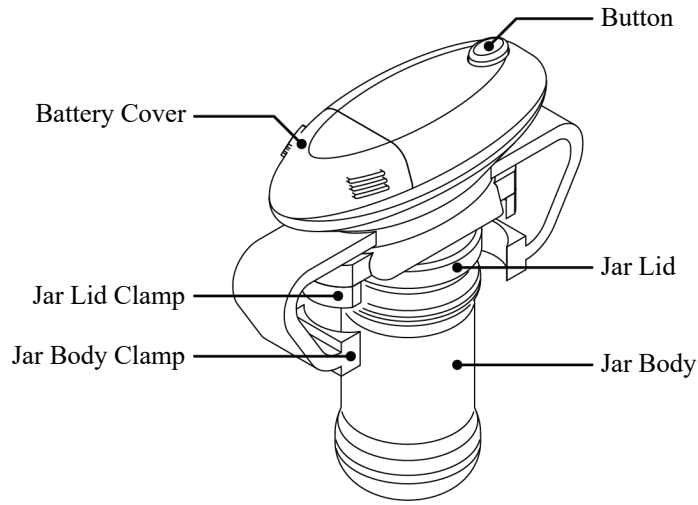
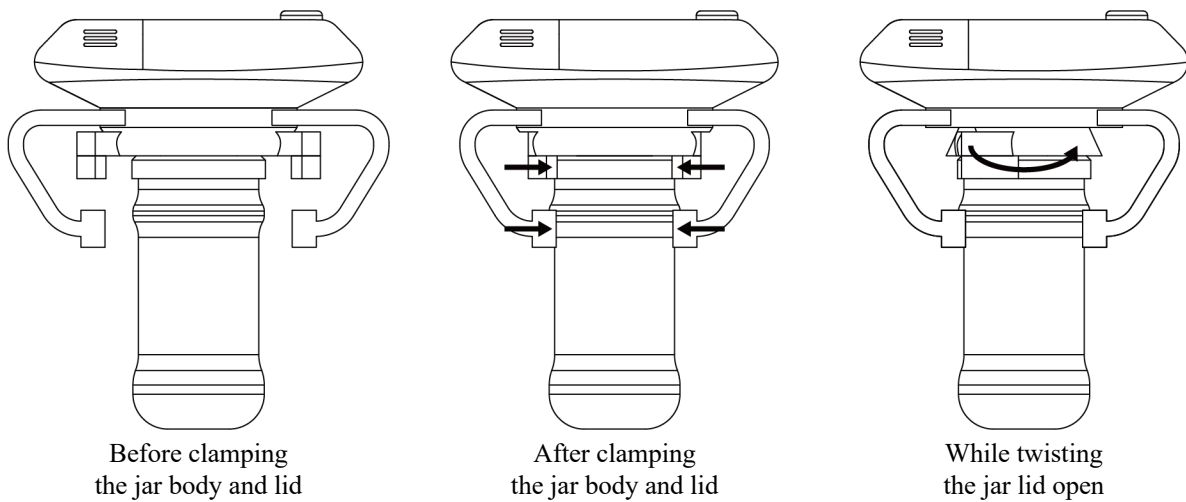

Figure 1
Figure 2
2. Figure 1 shows a conceptual diagram of a battery-powered electric jar opener. Figure 2 shows three operating states of the opener during use.